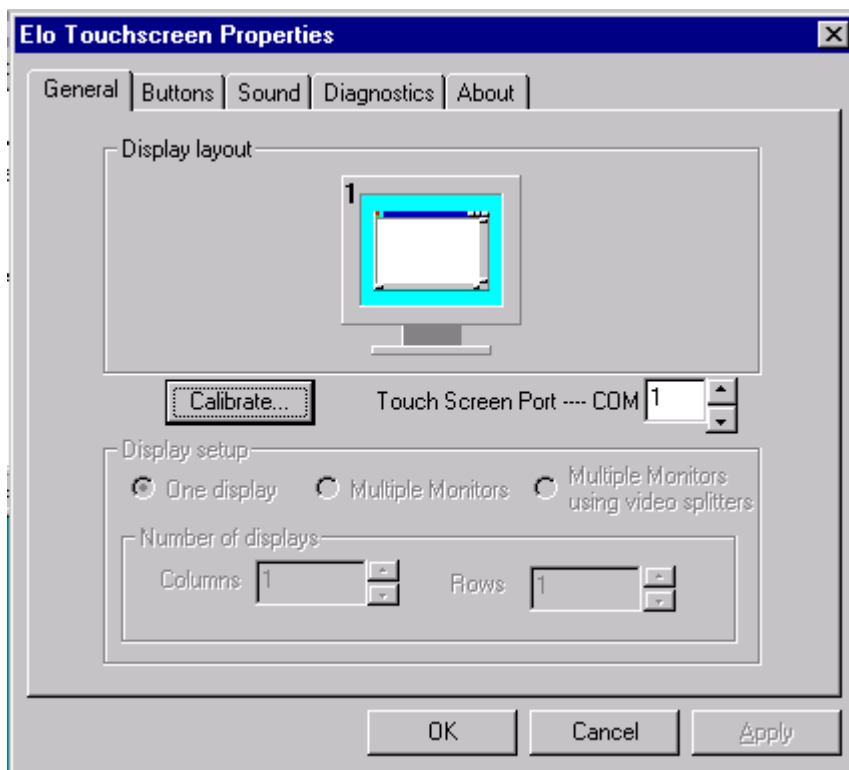

FIGURE 1-4. Touchscreen Dialog
1.10 On the ELO Touchscreen dialog, press the 'Calibrate' button. See FIGURE 1-4.